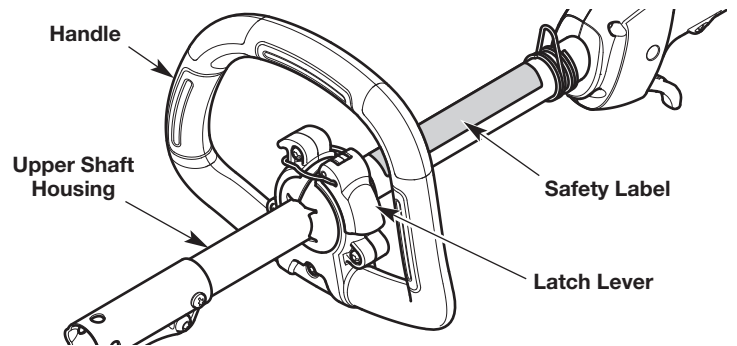

Fig. 8
7. Hold the unit in the operating position (Fig. 21). Move the handle up or down the upper shaft housing to a comfortable location (Fig. 8). Make sure the handle is positioned beyond the end of the safety label (Fig. 8).
1. Flip the latch lever up to loosen the handle (Fig. 8).
2. Hold the unit in the operating position (Fig. 21). Move the handle up or down the upper shaft housing to a comfortable location (Fig. 8). Make sure the handle is positioned beyond the end of the safety label (Fig. 8).